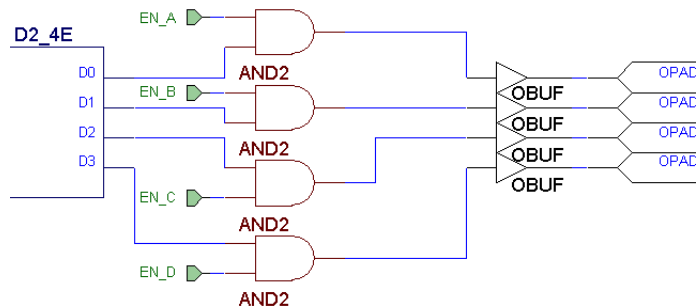

Figure 7.2: Selectively Enable/Disable Any of the Four Seven-Segment Displays.
- Add four AND gates between the four decoder outputs and the four enabling pads of the four seven-segment displays. The second input of these four AND gates is to be connected to four enabling signal to allow the user to selectively enable/disable any of the four seven-segment displays. See Figure 7.2.